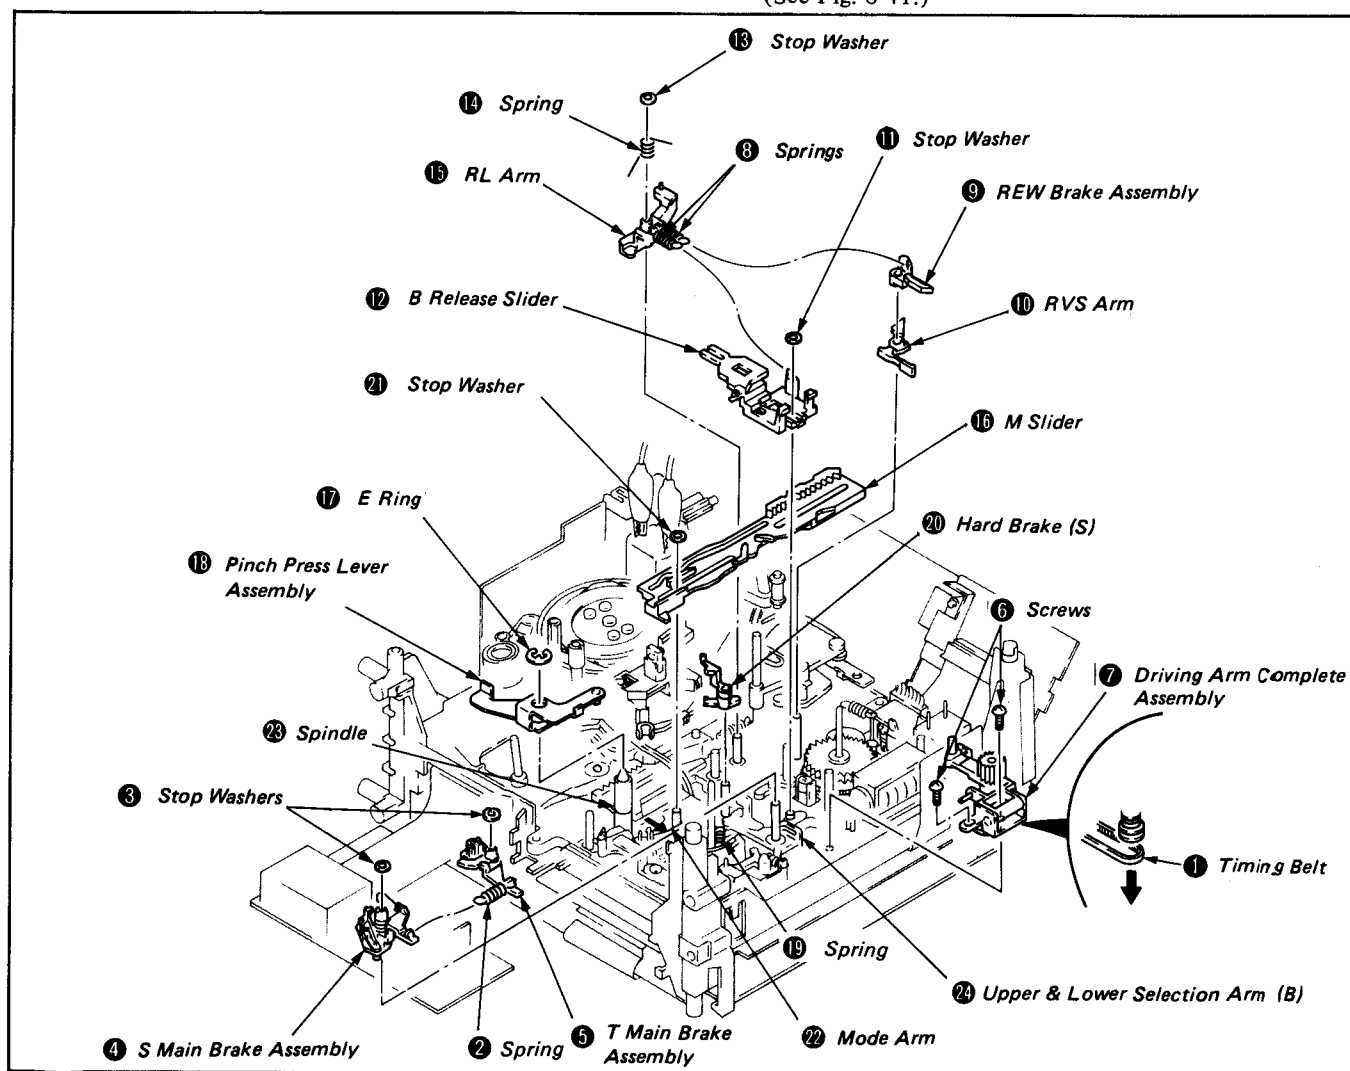
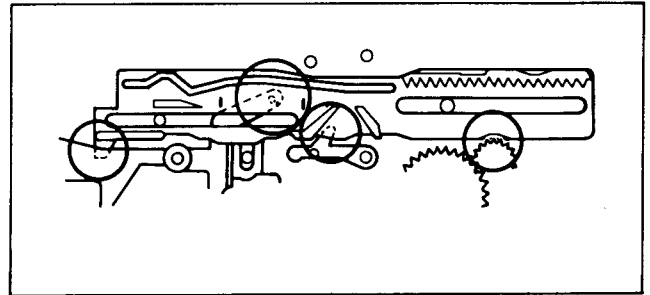
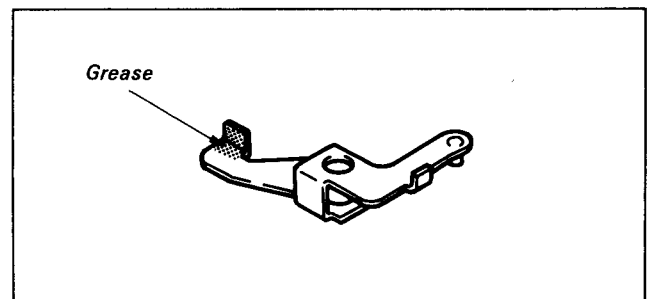

Fig. 8-41.
Fig. 8-43.
Fig. 8-44.
- 15) Remove two springs ⑧.
- 16) Remove the REW brake assembly ⑨.
- 17) Remove the RVS arm ⑩.
- 18) Remove the stop washer ⑪ and B release slider ⑫.
- 19) Remove the stop washer ⑬, spring ⑭, and RL arm ⑮.
- 20) Move the M slider ⑯ toward the right (leave approximately 5mm on the left).
- 21) Remove the E ring ⑰ and pinch press lever assembly ⑱.
- 22) Remove the spring ⑲ and hard brake (S) ⑳.
- 23) Remove the stop washer ㉑, push the mode arm ㉒ toward the arrow then remove the M slider ⑯ by lifting the lefthand side of the M slider ⑯.
- (See Fig. 8-41.)
- 2) Push the mode arm 22 in the arrow direction, remount the M slider 16 referring to Fig. 8-43 and paying attention to the vertical position relationship with other portions of the slider, and refit the stop washer 21. (See Fig. 8-41.)
- 3) Remount the hard brake (S) 20 and rehook the spring 19.
- 4) Grease as shown in Fig. 8-44.
- 15) Insert the horizontal spindle of the driving arm complete assembly 7 in the groove of the upper & lower selection arm (B) 24, insert the lug of the RVS arm 12 in the dented part of the driving arm complete assembly 7, and tighten two screws 6.
- 16) Remount the T main brake assembly 5 and S main brake assembly 4, refit two each stop washers 3, and refit the spring 2. (See Fig. 8-41.)